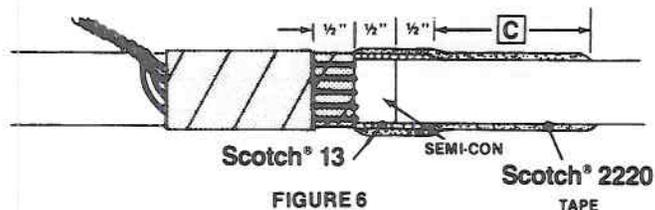

FIGURE 6
3. Wrap two half-lapped layers of 13 Tape 1/2" beyond cable semi-conducting material. Begin and end taping at front end of wire shielding. See Figure 6. HIGHLY ELONGATE 13 TAPE.
1. Wrap two half-lapped layers of 2220 Tape over 13 Tape and cable insulation. See Table III and Figure 6 for dimension **C**. STRETCH 2220 TAPE TO 3/4 OF ORIGINAL WIDTH.